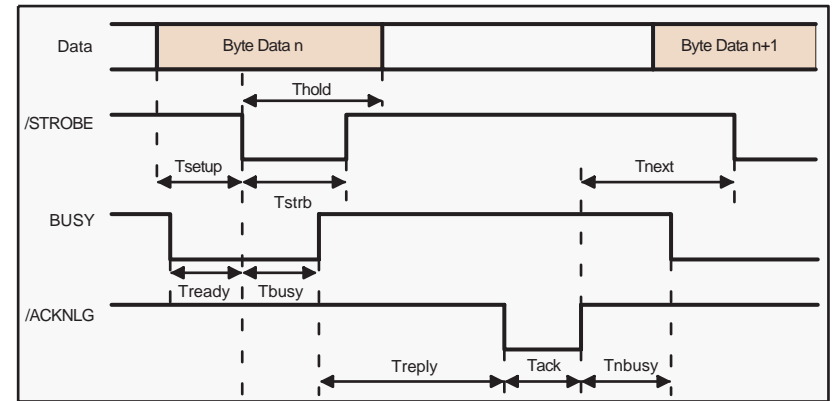

Figure 1-9. Data Transmission Timing for Forward Channel
**NOTE 3:**Refer to Figure 1-9 for transmission timing of each signals.